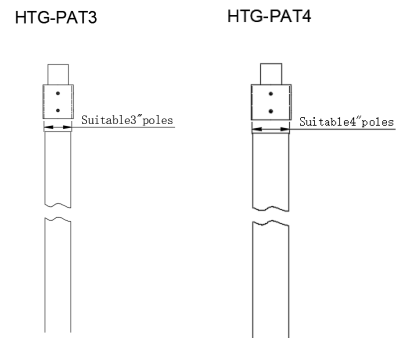

Fig.5
3. If the pole is 3 "or 4", please add PAT3 or PAT4, as shown in Fig.5.